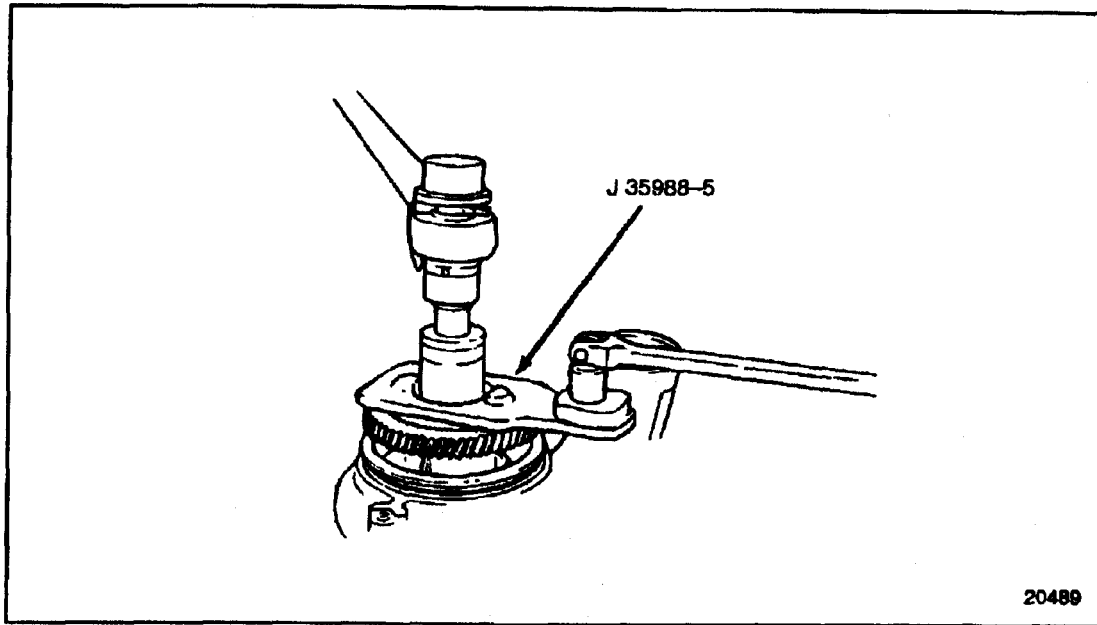

Figure 4-40 Water Pump Drive Gear Locknut Removal (FM)
3. Place the water pump face down on a press bed. Using J 35988-5, part of tool set J 35988-B, and two breaker bars, loosen the locknut that secures the water pump drive gear to the shaft. Remove the locknut. See Figure 4-40.